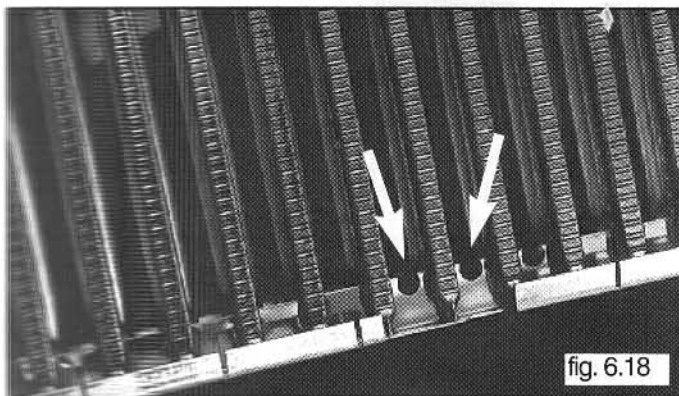

fig. 6.18
- a Centre the second support hole which you will find between the connections, otherwise the electrode may break (see fig. 6.18);